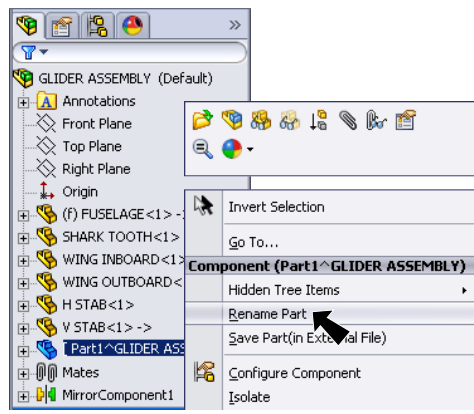

Fig. 27
Step 2. **Right click [Part1...** in the Feature Manager and click **Rename Part**, Fig. 27.